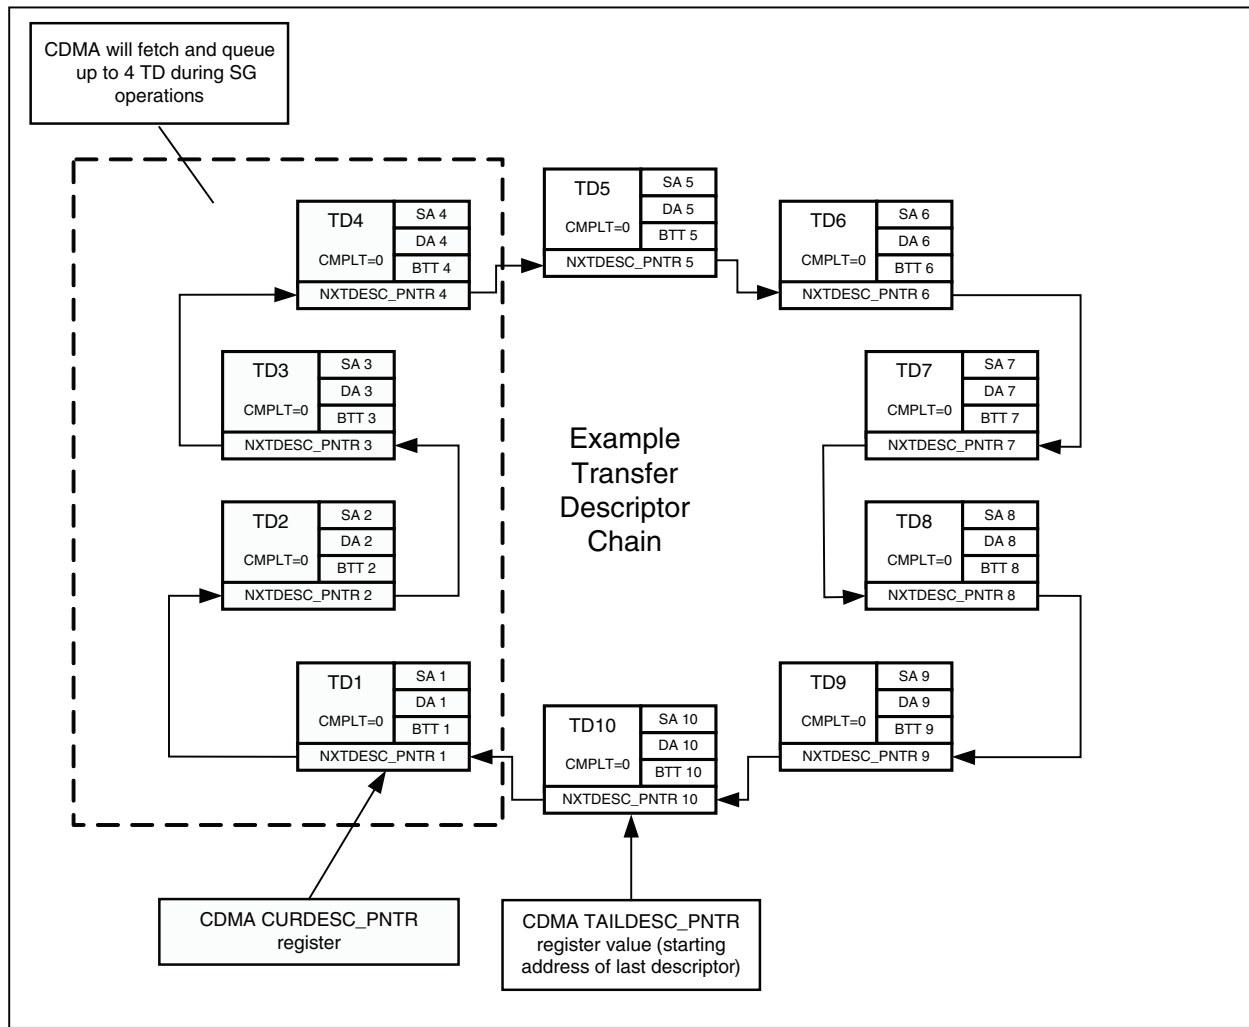

Figure 18: Transfer Descriptor Execution Startup
- The AXI CDMA starts SG operations when the TAILDESC_PNTR register is written by the software application. The value written should be the starting address of the last Transfer Descriptor (TD) in the chain to be executed. The SG operation begins by the CDMA fetching the first transfer descriptor at the address loaded into the CDMA CURDESC_PNTR register. See Figure 18.